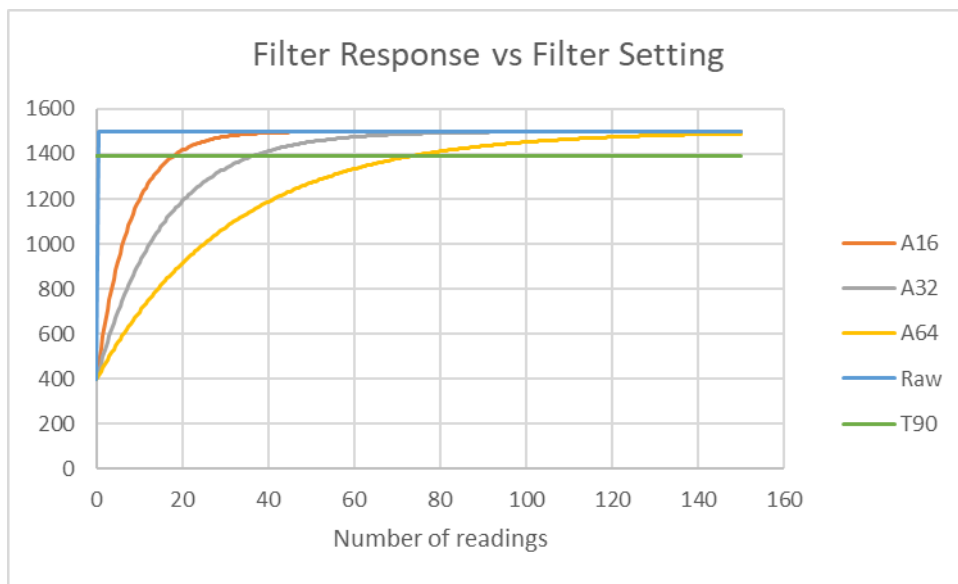

Figure 1: Filter Response vs Filter Setting
GSS sensors (excluding CozIR-Blink) implement a digital filter that allows the user to select whether to read raw CO₂ data or filtered CO₂ readings from the sensor. This allows the user to trade the response time with reading noise, depending on application requirements. The graph below in figure 1 shows the effect of the filter when exposed to a step change. The raw reading (Z) changes from 400 to 1500ppm on the next measurement sample. With a digital filter setting of 16, T₉₀ is a period of 18 readings. For a CozIR®-LP3, this equates to 9 seconds (2 readings per second), or 360 milliseconds (50 readings per second) for a SprintIR®-R.